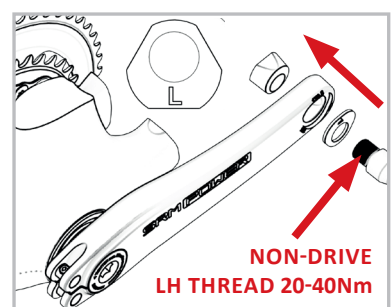

FIG. 7
- Repeat the installation process with the Tri-lobe nut marked "L" on the Non-Drive side crank arm (Fig. 7).
- Make sure the magnet is positioned between 21-51 mm from the center point of the bottom bracket shell. (Fig. 7).